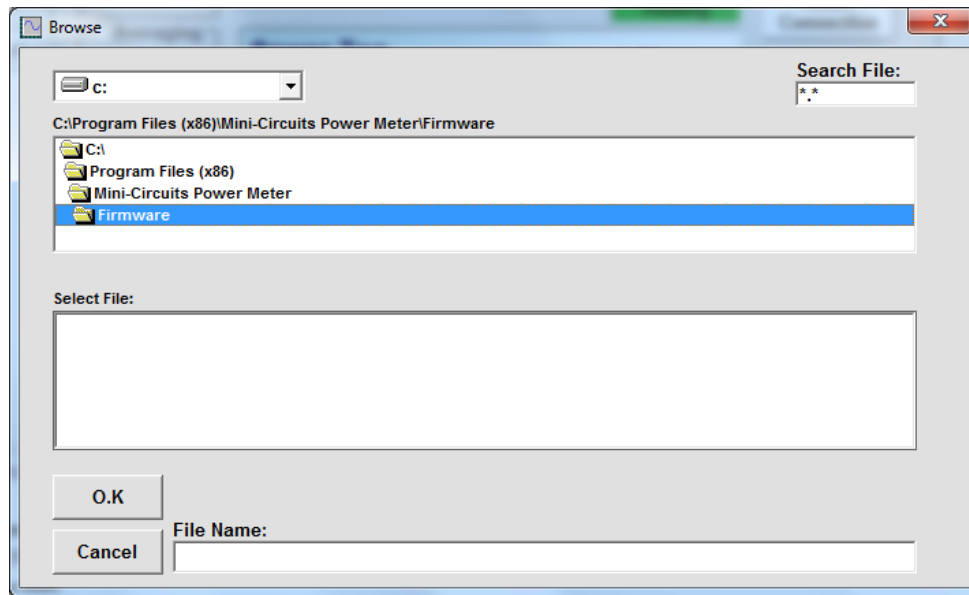

Figure 3.8.5: Firmware - Browse Window
3.8.5 A browse window will open to the firmware directory under the path you selected when installing the GUI program (See **Fig. 3.8.5**). Navigate to where you saved your firmware file, select the firmware version you wish to install and click 'O.K'.